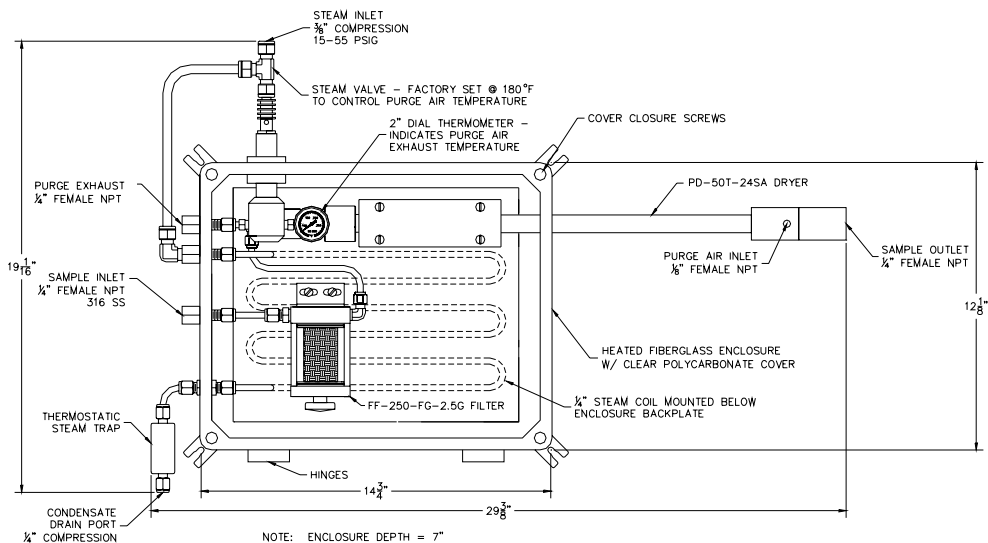

Figure 7
f. Steam Connection (Optional - Refer to Figure 7)